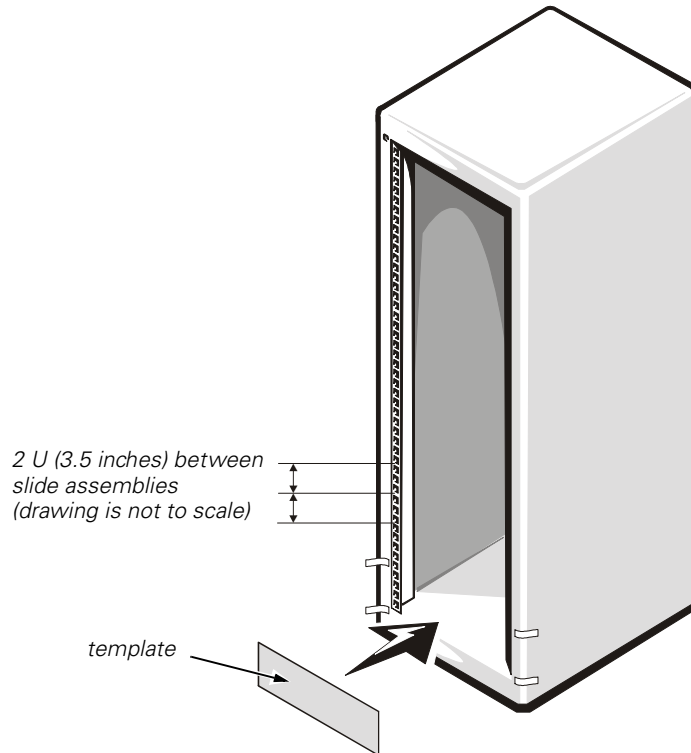

Figure 1-7. Using Template to Mark Vertical Rails
| Figure 1-7. Using Template to Mark Vertical Rails | 1-9 |
2. Mark the rack's front vertical rails with a felt-tipped marker or place self-adhesive masking tape where the system's upper and lower edges will be located (see Figure 1-7).